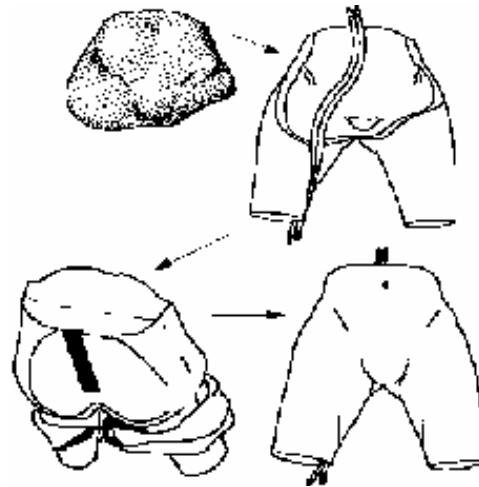

Fig. 4
4. Remove the skin from the mandrel. (Figure 4)